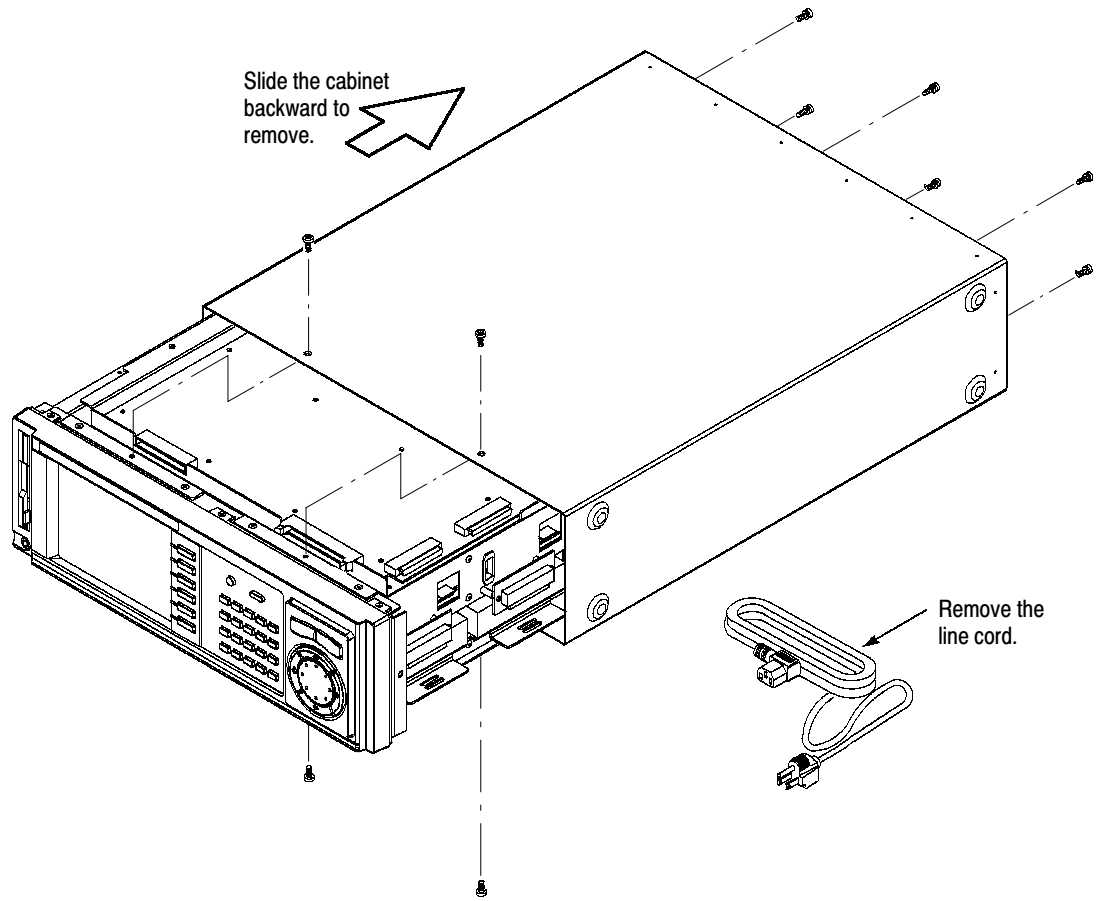

Figure 4: Removing the standard cabinet
2. Using the screwdriver with a #2 Phillips tip, remove the four screws securing the front of the cabinet to the MPEG generator. See Figure 4.
3. Using the screwdriver with a #2 Phillips tip, remove the six screws securing the rear of the cabinet to the MPEG generator. See Figure 4.
5. Grasp the right and left edges of the cabinet near the back of the MPEG generator, and then carefully slide the cabinet towards the back of the MPEG generator to remove the cabinet. See Figure 4. Some force may be necessary to get the cabinet to start sliding.